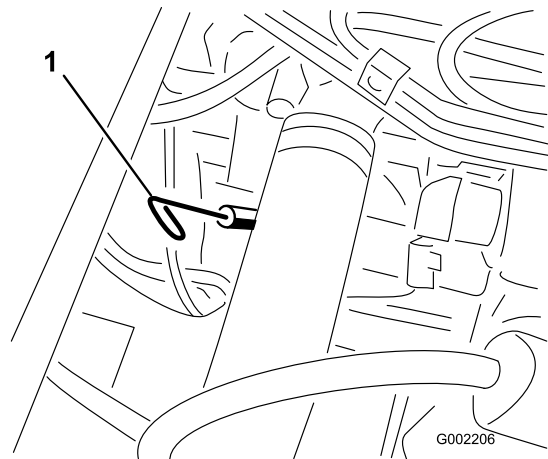

Figure 40
- Remove the dipstick, located under the passenger seat, and wipe it with a clean rag (Figure 40).
13. Remove the oil filler cap and slowly pour approximately 80% of the specified amount of oil into the engine at the oil filler (Figure 40).